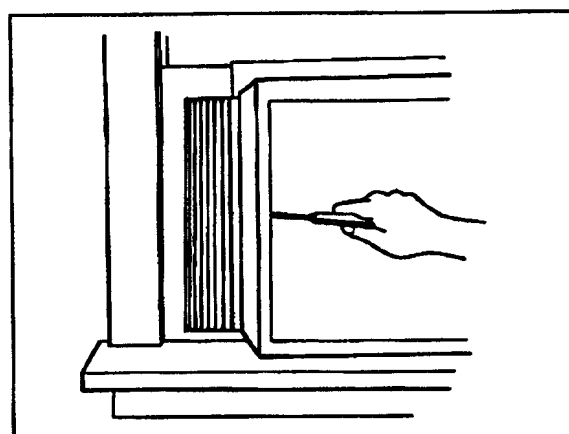

Fig. 22 – Fastening Wing Panels Against Sides of Casing
- 23** Using 3 short screws provided for each wing panel, insert the screws through the 3 casing screw holes (each side), and into the pre-made screw holes in sides of wing panels. Tighten all screws so that the wing panels are fastened tightly against casing sides, being careful not to overtighten screws. All screw holes should be used to prevent air seepage. See Fig. 22.